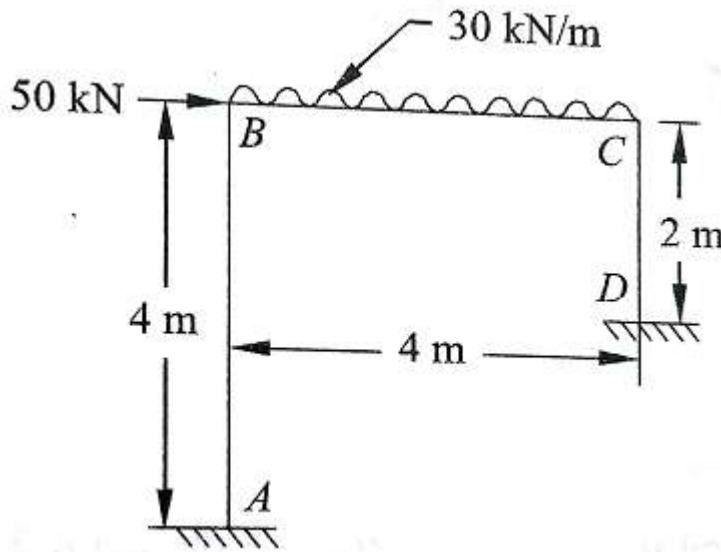

Figure 4
- (b) Analyse the frame ABCD shown in figure 4 using stiffness matrix CO2- Ana (16)
- (b) Analyze the portal frame ABCD shown in figure 4 using flexibility CO3- Ana (16)